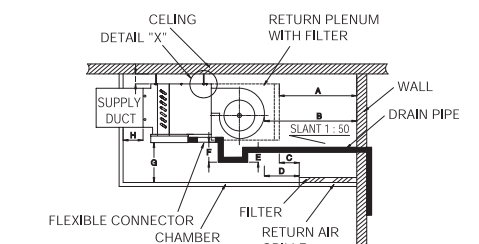
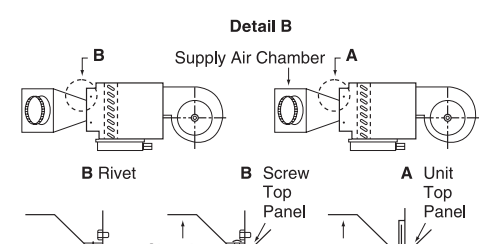

Figure 3 (SIDE VIEW)
Figure 6
3. Hang the unit on a solid and level roof. Noise, vibration or leakage could occur on an unstable foundation (Figure 3, 4). For correct installation of duct work see (Figure 6).